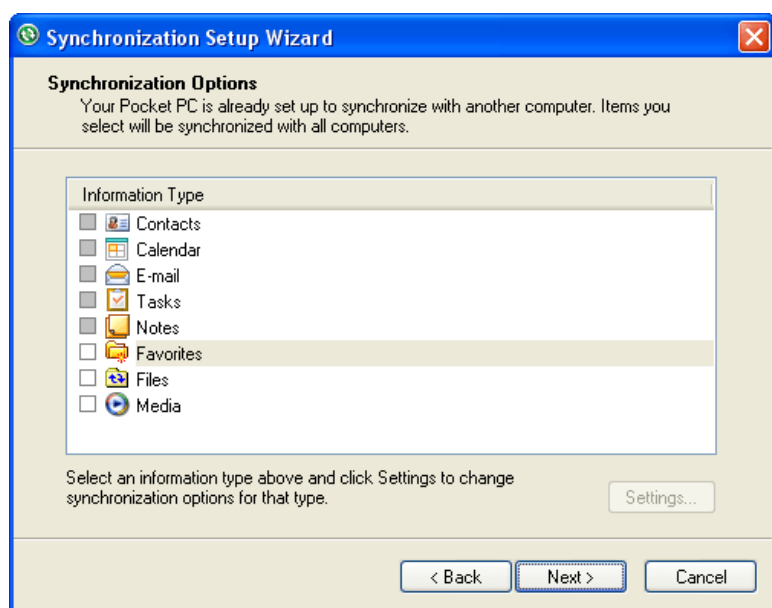

Figure 81. Unmark All Synchronization Options.
- 2) Connect the Detective-EX's DATA port to the computer. If this is the first time the unit has been connected to this computer, Windows XP will display a series of "Found New Hardware" messages indicating a mobile device (e.g., the Detective-EX computer) has been detected. The Synchronization Setup Wizard will start. Follow the wizard prompts for a standard partnership according to step (3).
- 3) On the Synchronization Options screen, *unmark ALL checkboxes, scrolling down as needed to ensure all items have been deselected* (Fig. 81). This will prevent the host computer and trans-SPEC from automatically exchanging files.